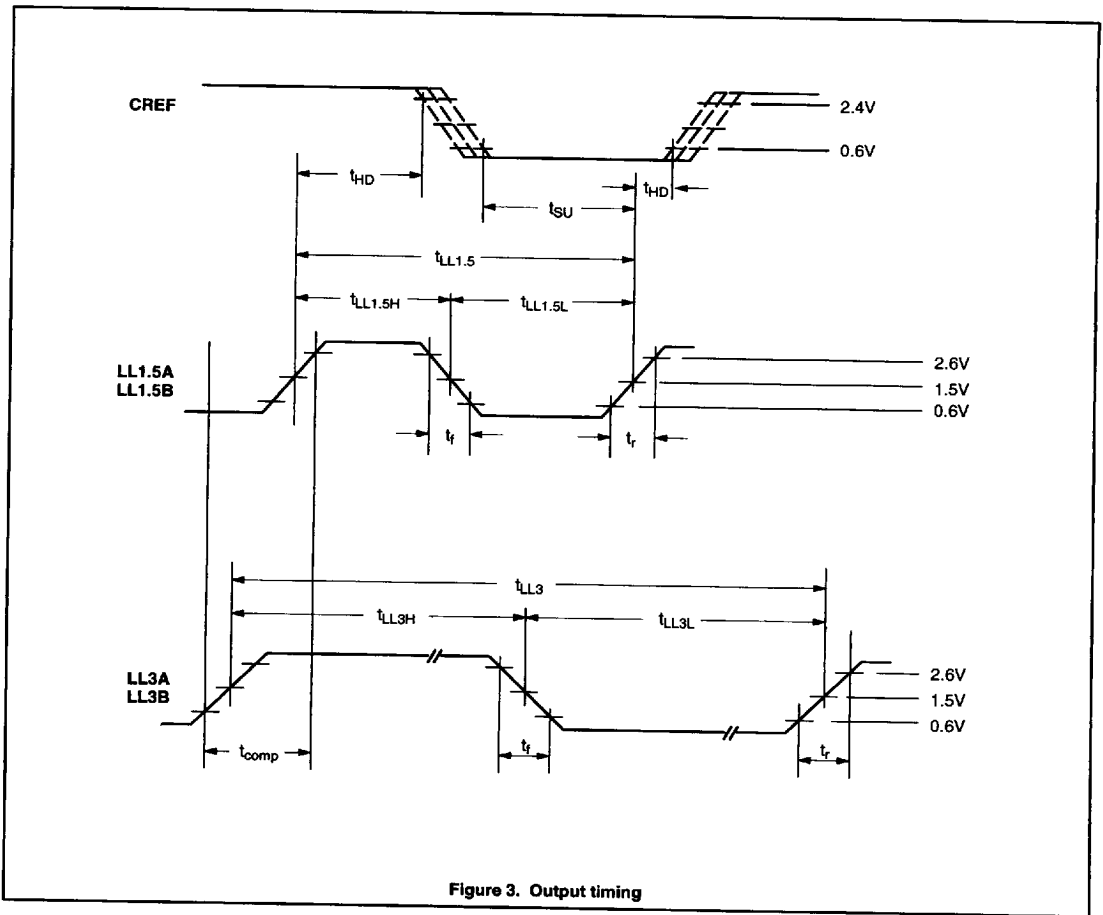

Figure 3. Output timing
- $f_{LFCO} = 7.0$ MHz and output load 40 pF (Figure 3).
- t_{comp} is the rise time from LOW of all clocks to HIGH of all clocks (Figure 3) including rise time, skew and jitter components. Measurements taken between 0.6V and 2.6V. Skew between two LLx clocks will not deviate more than ± 2 ns if output loads are matched within 20%.